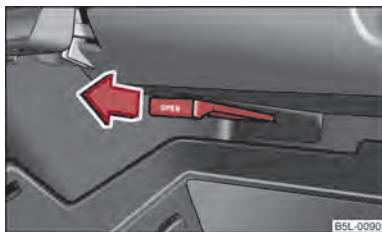

Fig. 77 Storage compartment: Using cooling system
- You can switch on the cooling system by pulling the lever in direction of arrow ⇒ fig. 77.